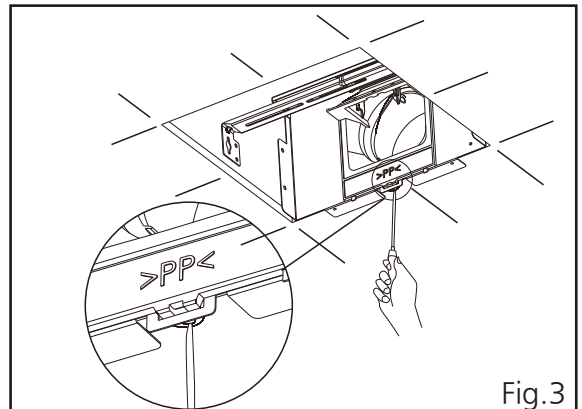

Fig.3
- (1) Using 1 of the ST4.2X30 tapping screws provided in the accessory package to fix the hanger unit to the ceiling.(Fig.3)